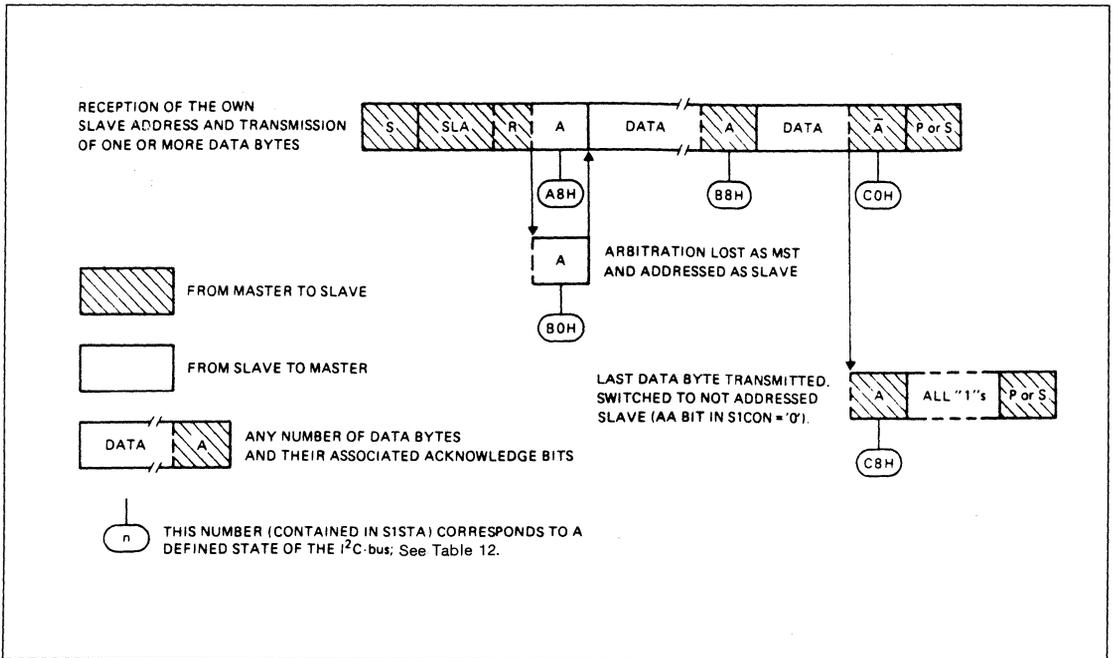

Figure 30. Format and States of the Slave Transmitter Mode
In the slave transmitter mode, a number of data bytes are transmitted to a master receiver (see Figure 30). Data transfer is initialized as in the slave receiver mode. When S1ADR and S1CON have been initialized, SIO1 waits until it is addressed by its own slave address followed by the data direction bit which must be '1' (R) for SIO1 to operate in the slave transmitter mode. After its own slave address and the R bit have been received, the serial interrupt flag (SI) is set and a valid status code can be read from S1STA. This status code is used to vector to an interrupt service routine and the appropriate action to be taken for each of these status codes is detailed in Table 12. The slave transmitter mode may also be entered if arbitration is lost while SIO1 is in the master mode (see state B0H).